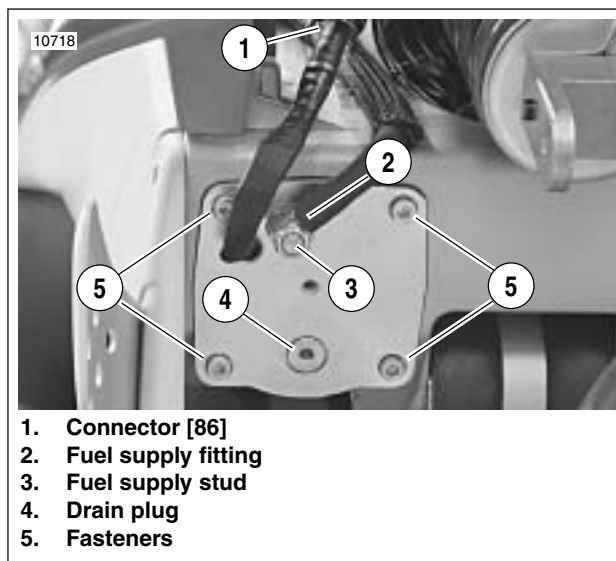
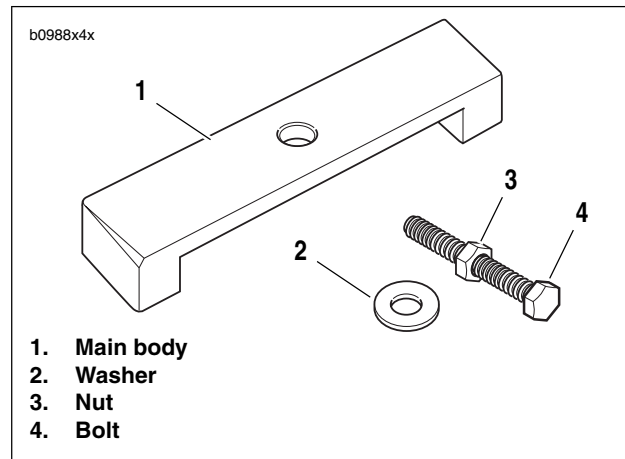
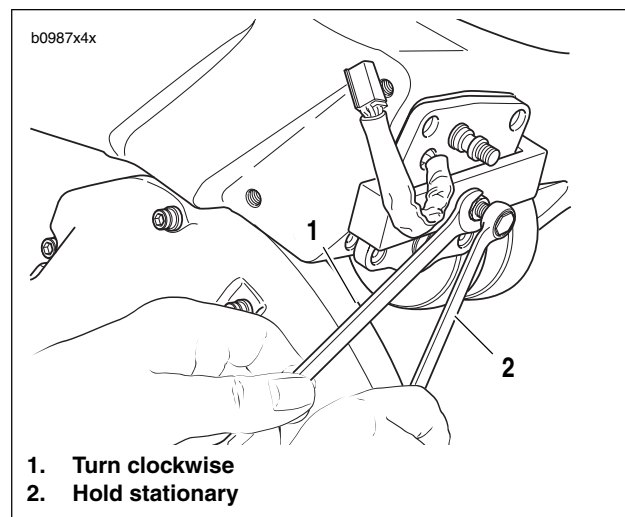

Figure 4-84. Fuel Pump Installation
Figure 4-85. Fuel Pump Puller
Figure 4-86. Fuel Pump Removal
- a. See Figure 4-84. Disconnect the 4-place fuel pump connector (1) [86]. Connector is located inside the left rear portion of the fuel tank/frame.
4. See Figure 4-84. Remove fuel line from fuel supply fitting (2).
5. Remove four fuel pump fasteners (5).
6. See Figure 4-85. Assemble fuel pump puller.
- a. Thread nut (3) onto bolt (4).
- b. Slide washer (2) onto bolt.
- c. Insert bolt assembly into hole in main body (1).
7. See Figure 4-86. Place the main body of the fuel pump puller over the fuel pump assembly.